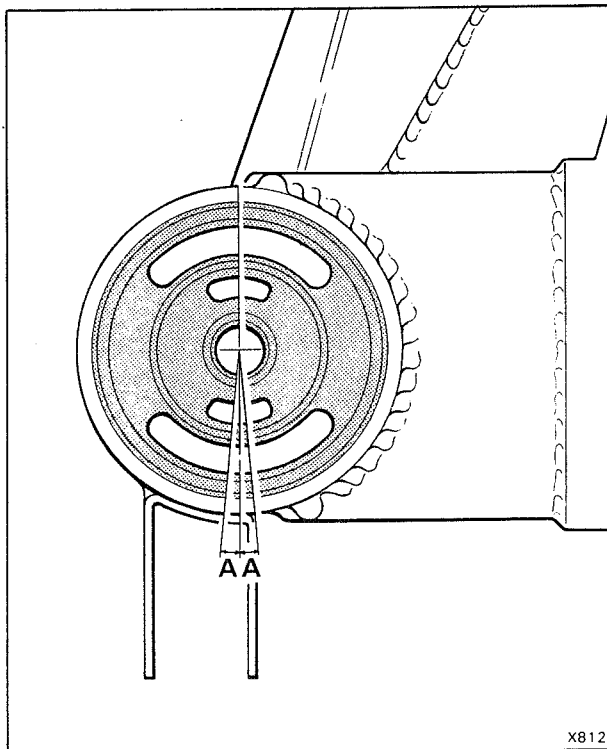

Fig. H5m Rear crossmember mount alignment
13. Locate a new mount in position on the cross-member. Fit tool (RH9291) using the insertion components. Ensure that the slots in the rubber of the mount are positioned as shown in figure H5m. Tighten the tool draw bar to draw the new mount into the sleeve of the crossmember until the mount is fully inserted. Remove the tool.